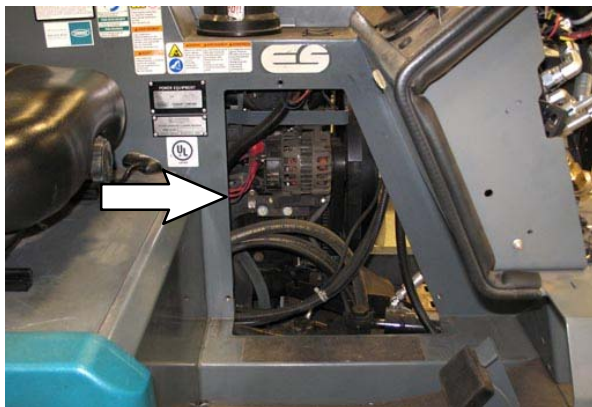

FIG. 1
1. Remove the engine access panel from the operator compartment. Set the access panel and hardware aside. (Fig. 1)
4. Reinstall the engine access panel into the operator compartment. (Fig. 1)